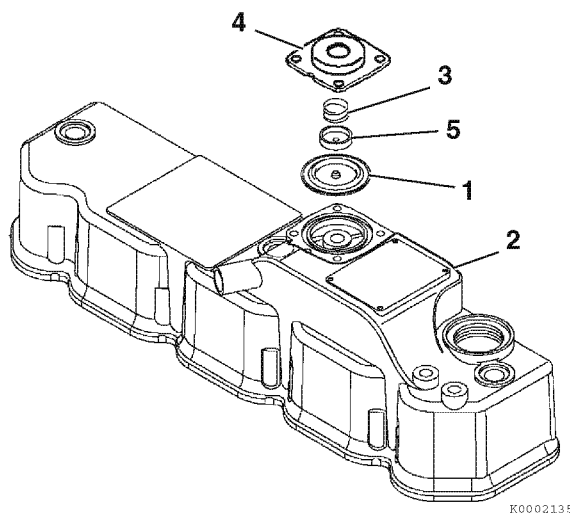

Figure 5-15
The non-turbo TNV engines use a crankcase breather system that has a spring-backed diaphragm (**Figure 5-15, (1)**) in the valve cover (**Figure 5-15, (2)**). When the crankcase pressure reaches a predetermined value, the diaphragm opens a passage that allows crankcase fumes to be routed to the intake manifold.
To inspect the diaphragm and spring (**Figure 5-15, (3)**):
1. Remove the bolts retaining the diaphragm cover (**Figure 5-15, (4)**).
2. Remove the diaphragm cover, spring, diaphragm plate (**Figure 5-15, (5)**) and diaphragm.